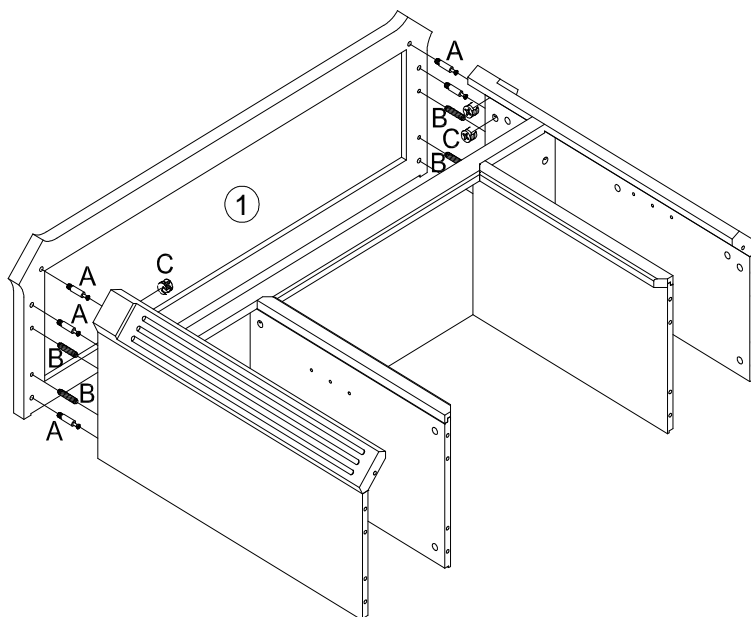

Figure 4
Insert cam locks (C) into predrilled holes on pre-assembled unit in figure 4
Attach bottom panel (11) to pre-assemble unit in figure 4 by inserting wood dowel (B) & cam bolt (A) into corresponding predrilled holes until assemble parts in figure 4 & bottom panel (11) meet.